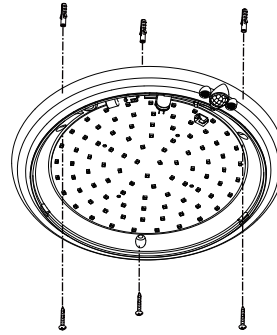

Fig.4
- Step6 Use the screw to fix the lamp base on the place where has been chosen.(as Fig.4)